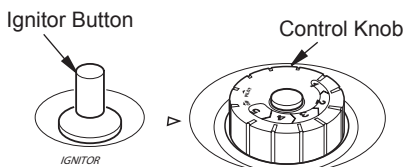

Figure 22 - Control Knob In The OFF Position, Models VP16T, VN18T, VP26T & VN30T
3. Turn thermostat control knob clockwise to the OFF position (see Figure 22 or 23 for your model).
5. Turn thermostat control knob counterclockwise to the pilot position. Press in thermostat control knob for 5 seconds (see Figure 22 or 23 for your model).